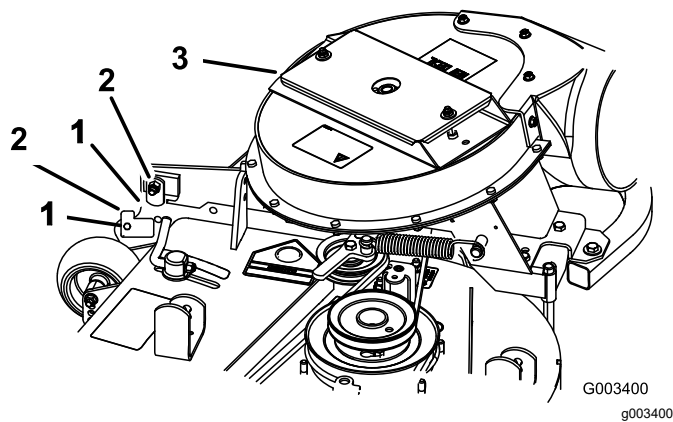

Figure 15
- Close the blower assembly to see if the latches are adjusted correctly (Figure 15).
Note: Loosen or tighten the bolt so the latches firmly hold the blower assembly against the mower deck but can be released by hand (Figure 15).